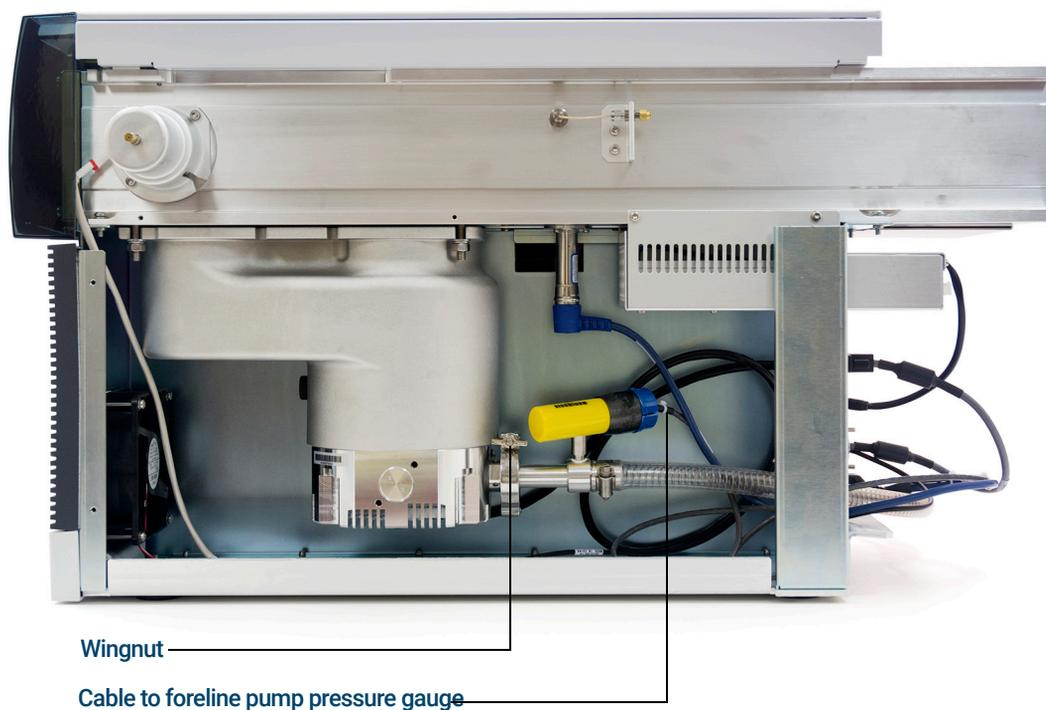

Figure 11. Ion vacuum gauge cable
- 4 Unscrew the large wingnut on the gauge clamp. (See **Figure 11** on page 98.)